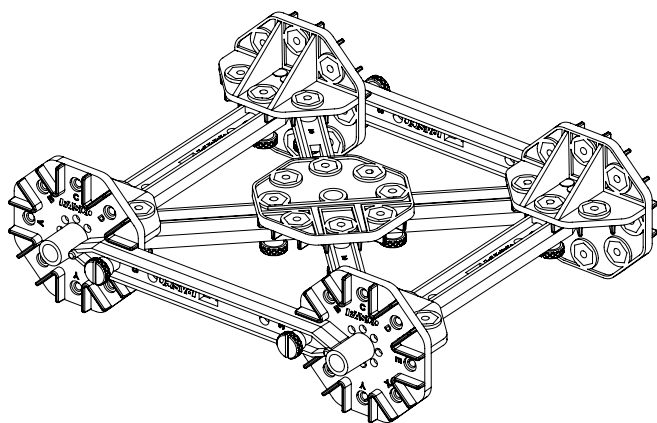

Figure 1: Ground floor structure base.
2. Attach the four full round connectors to the #2 I-beams using truss set screws, as shown in Figure 1.
- Use the four #3 I-beams and eight truss set screws to connect the full round connectors to each other, as shown in Figure 1.